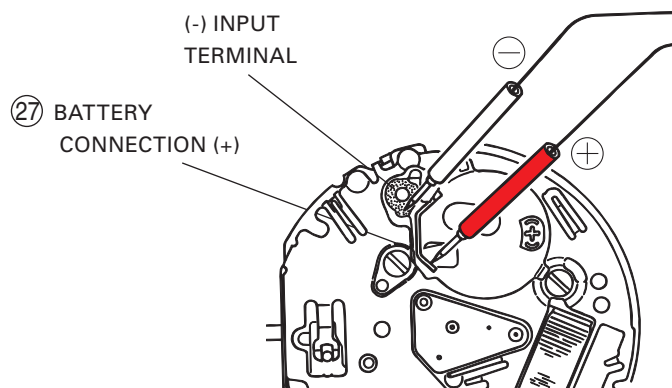

Fig. 17
- 1) Remove the ① SOLAR CELL UNIT and the ⑧ RECHARGEABLE BATTERY UNIT from the movement.
- 2) Connect the (-) probe to the (-) input terminal of the ①① CIRCUIT BLOCK and (+) probe to the ⑳ BATTERY CONNECTION (+) as illustrated in Fig. 17.